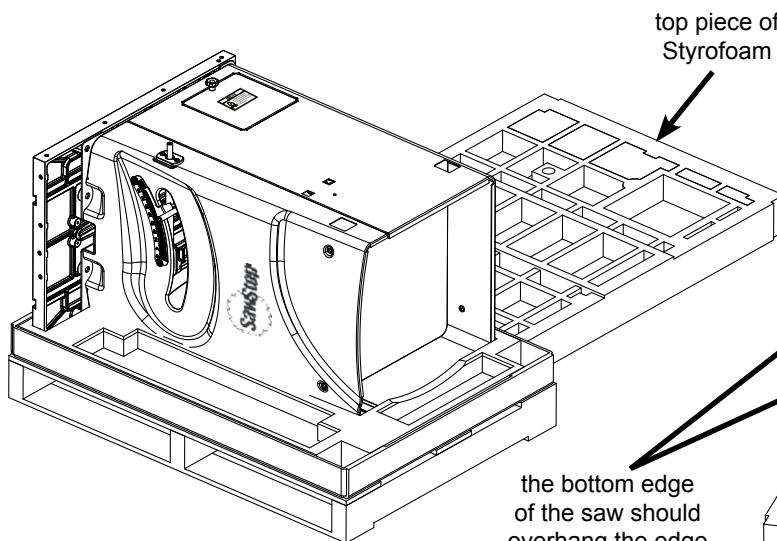
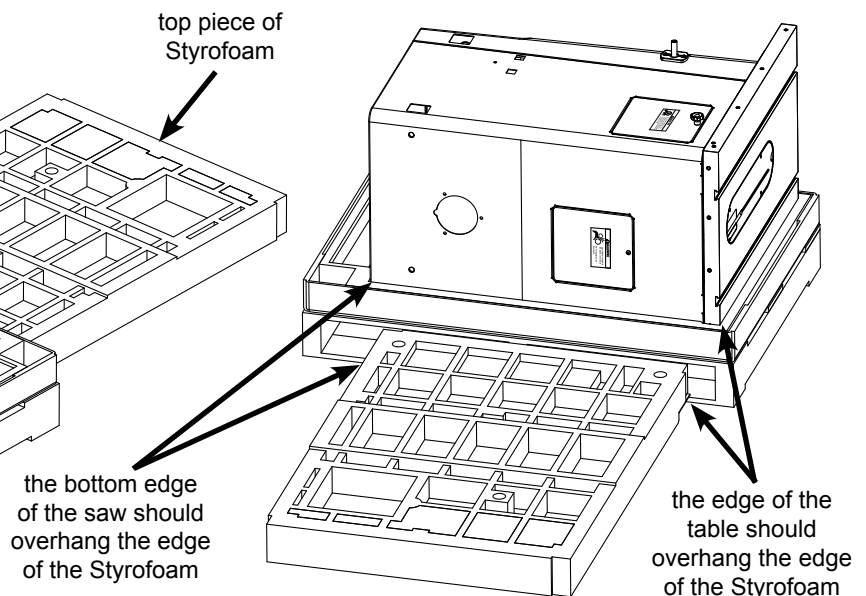

Fig. 2a
Fig. 2b
2. Take the top piece of Styrofoam and place one of its short sides next to the pallet by the back of the saw, as shown in Fig 2a. Place the Styrofoam so that the top edge of the table and the bottom edge of the saw both overhang the edges of the Styrofoam (see Fig. 2b).